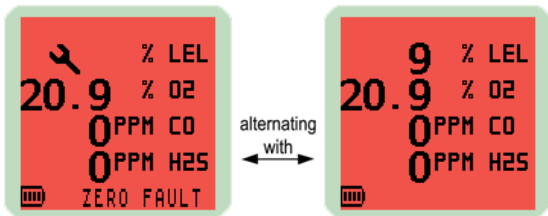

Fig. 4-10 Check Fault
3) If a “ZERO FAULT” warning and a flashing spanner symbol appear, alternating with an LEL gas value as shown in Fig. 4-10, leave instrument on for 30 to 60 minutes then switch instrument OFF and ON again. If fault remains, return instrument to a GMI approved Service / Repair facility.